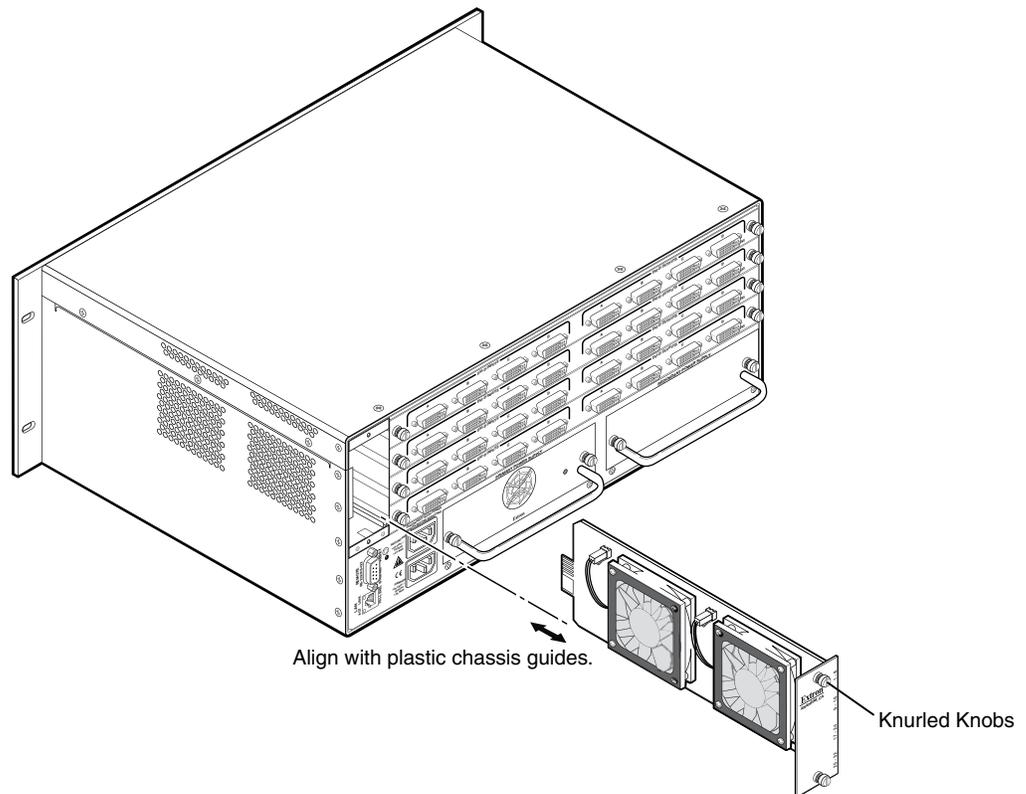

Figure 71. Fan Replacement
2. Rotate the top and bottom knurled knobs to completely loosen the captive screws (see figure 71).
2. Align the flanges on the fan with the top and bottom plastic chassis guides (see figure 71).